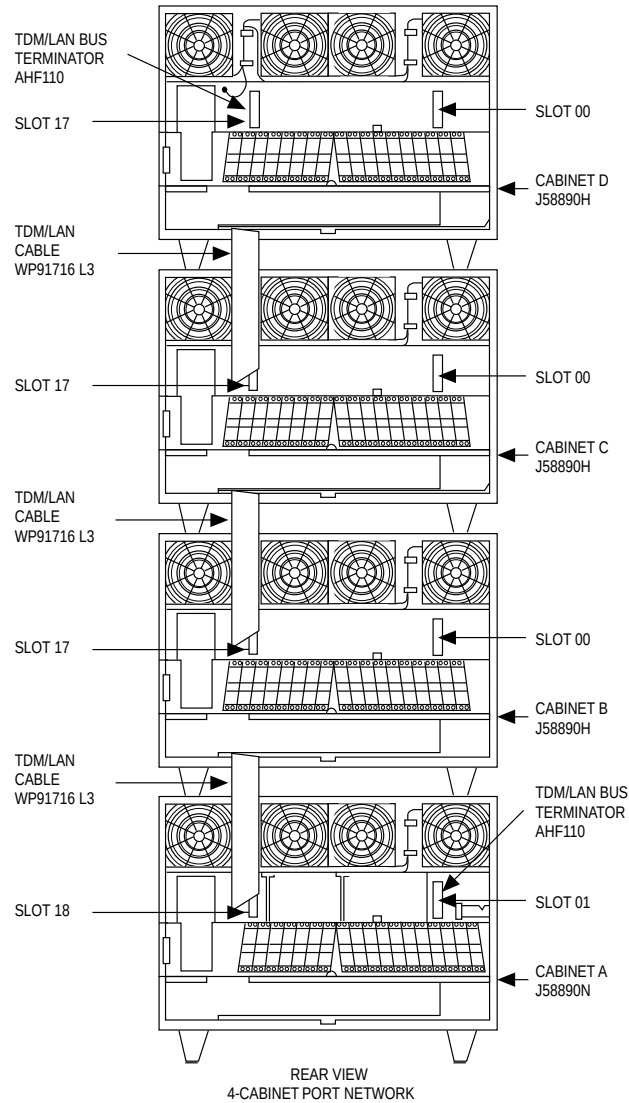

Figure 8-9. TDM/LAN Connections for DEFINITY ECS Release 5 EPN
1. Verify that the AHF110 TDM/LAN bus terminator is installed on the right side of the control cabinet looking from the back of the cabinet as shown in Figure 8-9.
1. Route and connect the TDM/LAN cables (see Figure 8-9). If any of the G2 port cabinets (being upgraded to DEFINITY ECS Release 5 cabinets) were originally R1V3 System 75 port cabinets, use the following steps to route a cable between an R1V3 upper cabinet and cabinet beneath it. Do not run a new cable through the existing slot in the rear shelf of the upper cabinet.